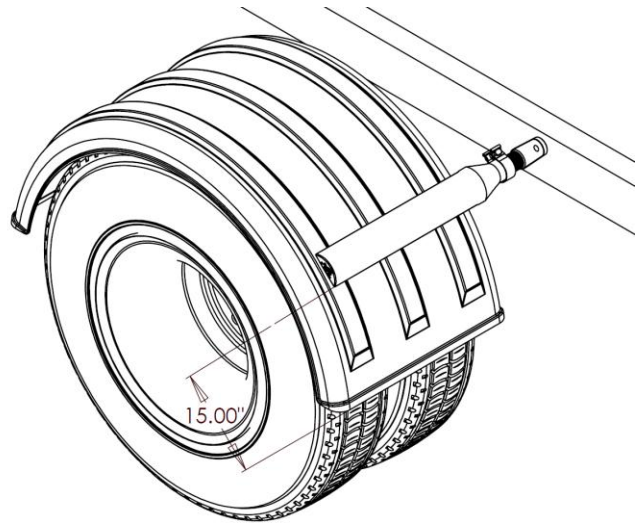

Figure 8
- D. If possible, position the mounting brackets so they are located within 15" of the bottom of the fender. This guards against wind blowing the leading edge of the fender back into the tire (Figure 8).